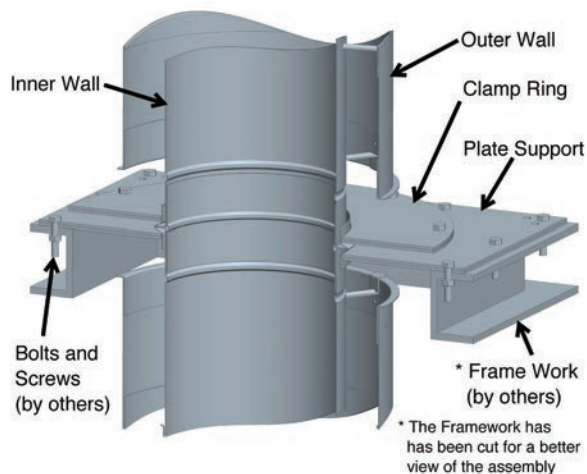
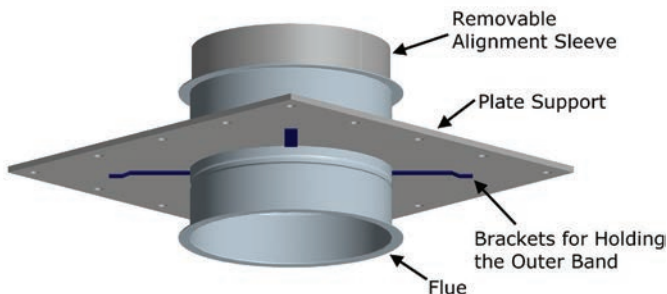

Figure 41a - Anchor Plate on Framing
Figure 43 - Anchor Plate with Length (APL)
The APL is an anchor plate integrated on a length. It cannot be used as a fixed support for vertical or horizontal installation because the anchor plate is free to move on the longitudinal axis of the length. Refer to the Anchor Plate (AP) for all the warnings / details, except for the installation. See **Figure 43** for detail of APL.
CAUTION: Small brackets must be on the bottom side so these can hold the outer band (BSE) against the support plates and to make sure the anchor plate is positioned in the middle of the inner wall when installed. See **Figure 43 to 46**.
NOTE: In the case of an Anchor Plate (AP), refer to **Figure 41a and 41b** for installation. For the Anchor Plate with Length (APL), Refer to a **Figure 43 to 46**. If it is not possible to suspend the Tee, it may be supported from the base (See **Table 5**) for maximum height for a base Supported Tee. When this type of support is necessary, access to the drain cap may be hindered. A structural steel stand can be used to allow access to the Tee Cap (TC) or Drain Tee Cap (DTC).
NOTE: In the case of an Anchor Plate (AP), refer to **Figure 41a and 41b** for installation .